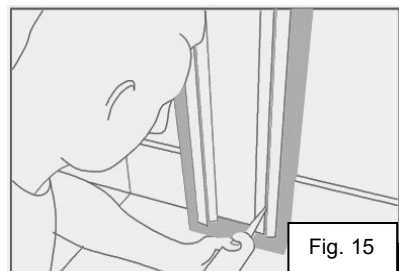

Fig. 15
- 9.5. Use a caulking gun to apply a bead of silicon along the length of the joint (fig.15).